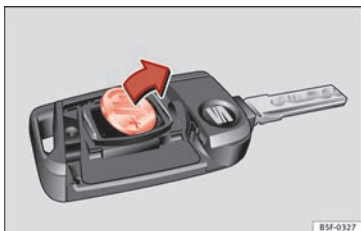

Fig. 126 Vehicle key: removing the battery
- Extract the battery from the compartment using a suitable thin object » Fig. 126.
- Place the new battery in the compartment as shown » Fig. 126, pressing in the opposite direction to that shown by the arrow » ②.